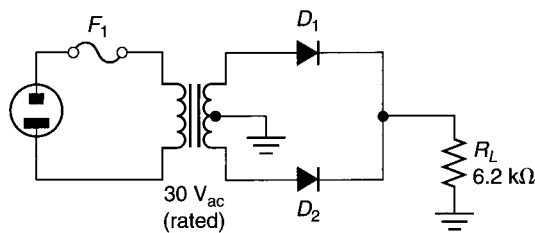

FIGURE 3.57
21. Determine the values of  $V_{L(pk)}$ ,  $V_{ave}$ , and  $I_{ave}$  for the circuit shown in Figure 3.57.
24. Determine the PIV of the circuit shown in Figure 3.57.